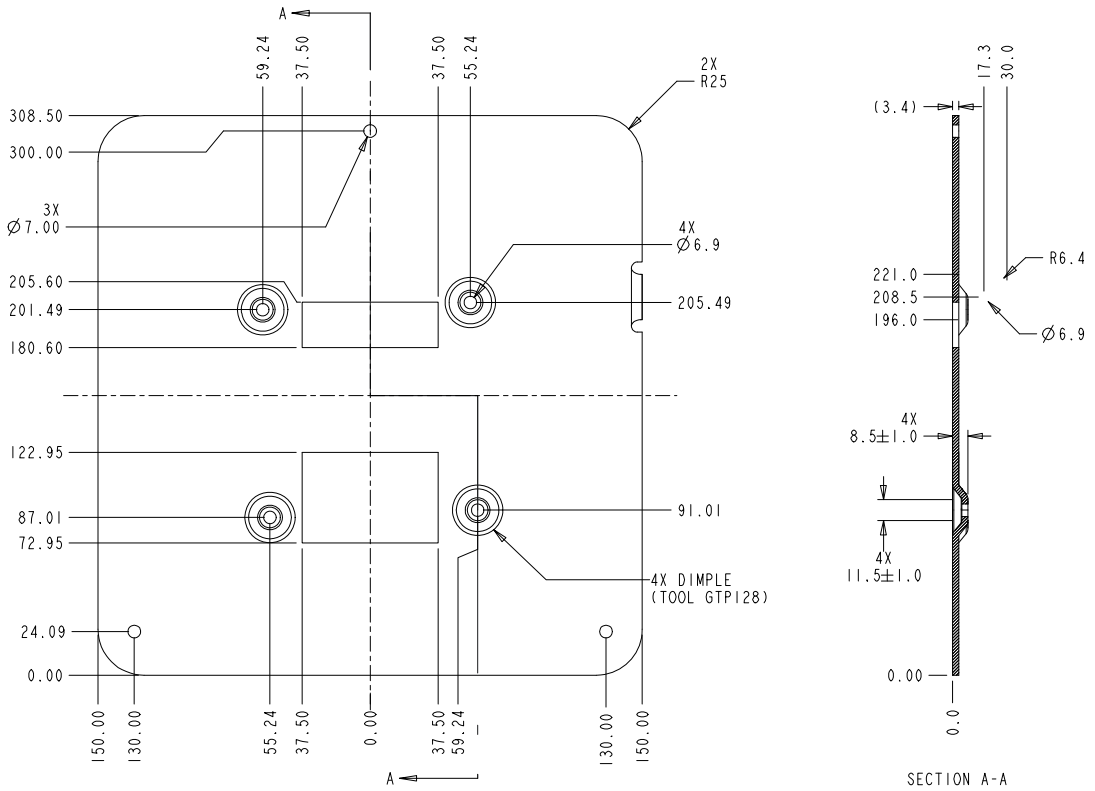

Figure 5: SMART-MR10 AG GPS 262 Layout Mounting Plate (70023086)
- Mounting plate with AG GPS 262 layout (NovAtel part number 70023086), shown in Figure 5 on page 26.